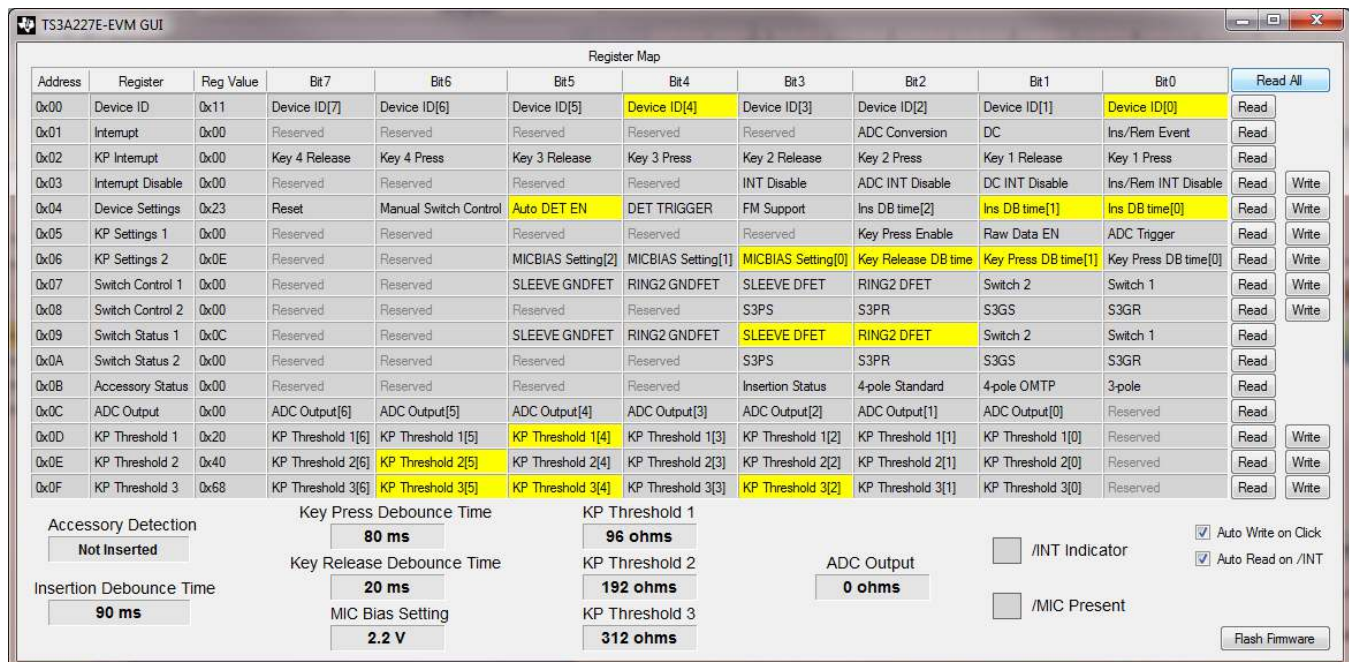

Figure 13. TS3A227E-EVM GUI Window
4. After the installation finishes, the GUI opens. The GUI is illustrated in **Figure 13**.